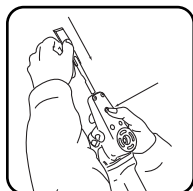

Fig.1
2. The Power Chisel is packaged with two accessory chisels. Remove a chisel from the box, wipe off the sticky coating and insert into the extension arm as shown in fig:1. When the chisel is inserted correctly it should snap firmly into place. The bevel of the chisel should fall away from the tool body.